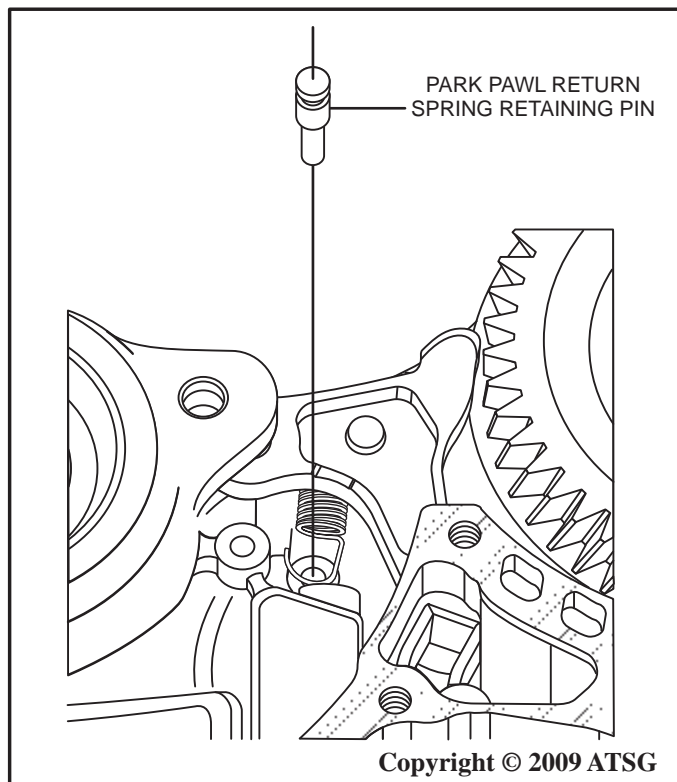

Figure 36
48. Remove the park pawl return spring retaining pin from the case as shown in Figure 36.